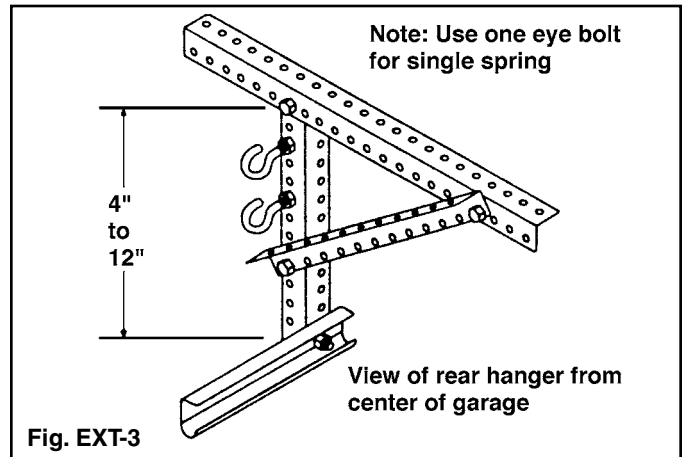

Fig. EXT-3
**Step 3:** Attach the eye bolts with one 5/16" nut on each side of the rear hanger. The eyebolts should be about 12 inches above the track to keep the spring assembly from dragging on the track. The eyebolts can be as low as 4 inches above the track if you have space problems. Tighten the eyebolt nuts. (FIG. EXT-3)